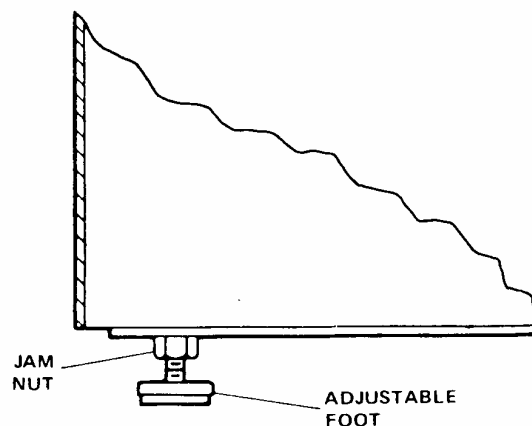

Figure 2-7. Adjustable Foot (Model BB1224)
**MODEL BB1224.** Place unit in desired operating location (near floor drain if possible). Level machine by loosening jam nut on adjustable feet and screwing feet in or out until unit is level. (See fig. 2-7.)